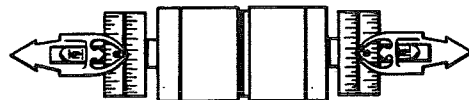

FIG.1
1. Join gages back to back (see fig. 1)